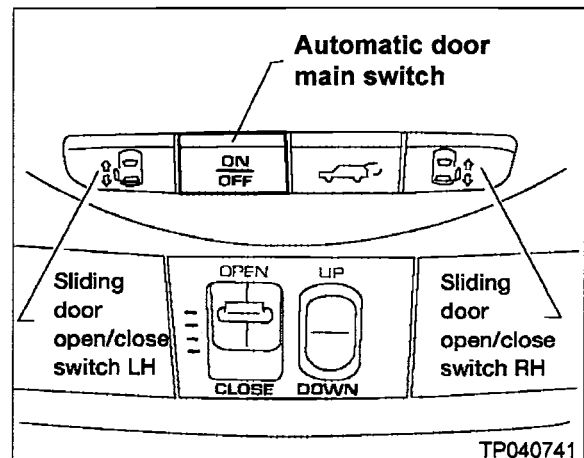

Figure 20
49. Turn the Automatic Door Main Switch OFF (see Figure 20).